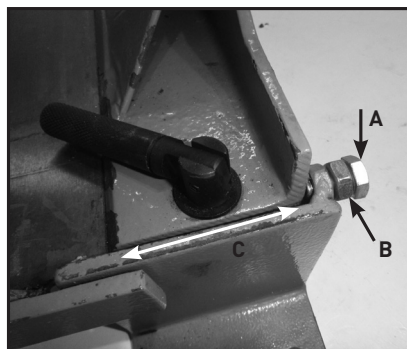

Fig 2
2. Ensure the lock nut (Fig 2B) on the Clamp Plate Adjustment Bolt (2) is tight so the the Clamp Plate Adjustment Bolt (2) does NOT move (Fig 2).